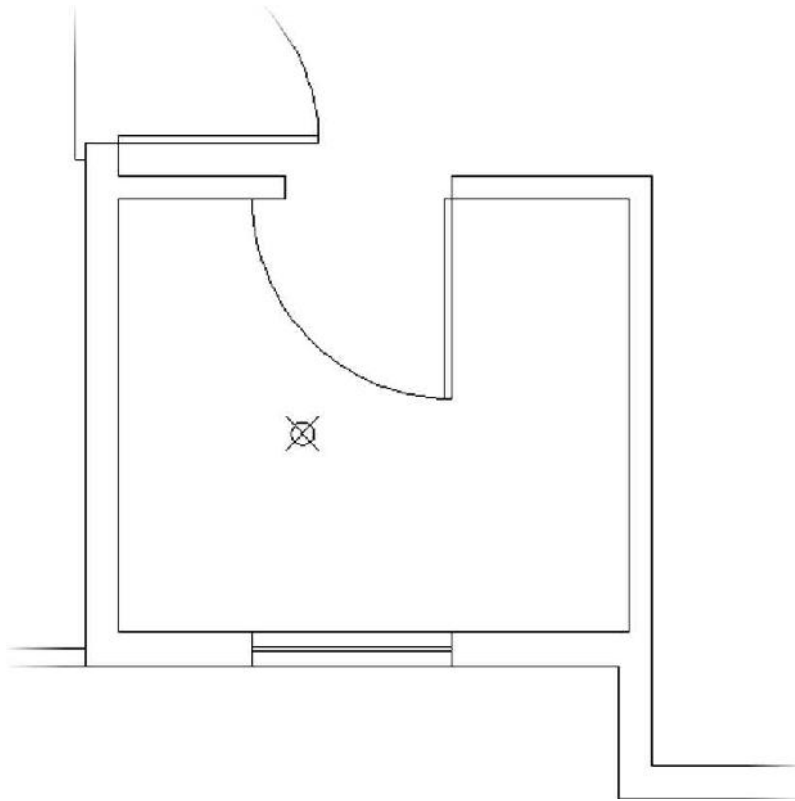

FIGURE 9.54: The door must be resized to fit.
17. Using Polar Tracking, move your cursor to rotate the door as shown in Figure 9.54.
The door is placed properly, but as shown in Figure 9.54, the default size is too large for the opening.